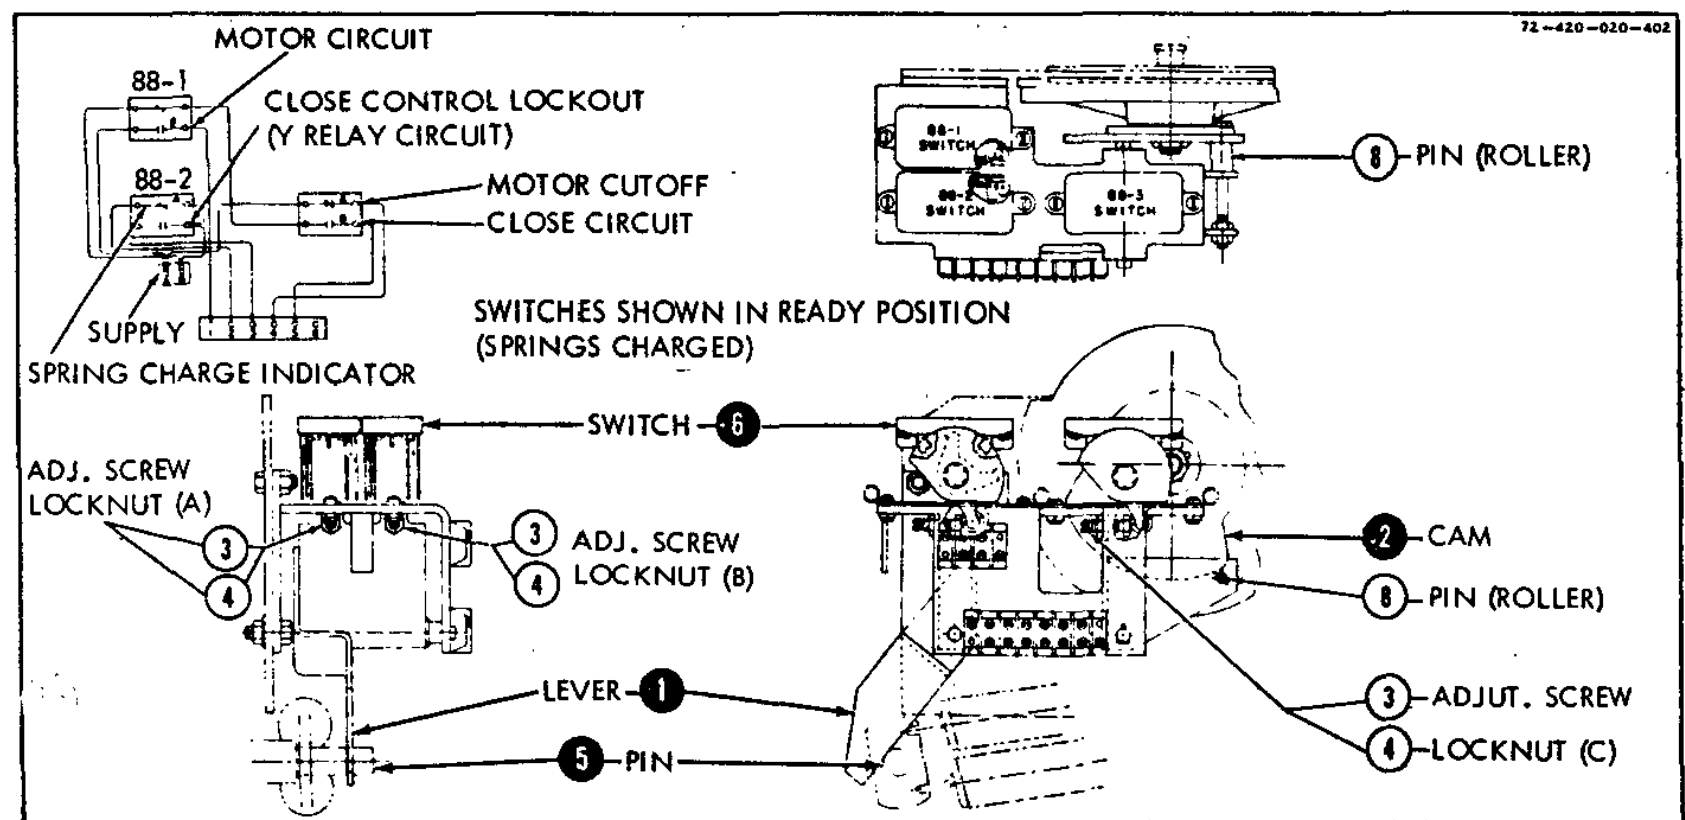

Fig. 11 - Motor control switch assembly for stored energy operator.
The normal control (Fig. 7) for this operator has been incorporated in one switch assembly located at the rear of the unit. It consists of two heavy-duty toggle switches (6) operated by common linkage (1) from the main closing springs and one heavy-duty toggle switch (6) operated by a cam (2) driven by the main gear (Fig. 11).
The main spring charging motor power is supplied through terminals 3 and 4, Fig. 7. The mechanical interlock is a switch operated by the breaker release lever which opens the motor circuit when the lever is depressed. The prop latch check switch is closed when the spring release latch is in reset position. The 88-1 and 88-2 switches are shown with the main closing springs discharged. When the control is energized, the motor starts to charge the springs. The 88-3 switch is operated by cam (2), Fig. 11, on the main gear. As the charging linkage charges the main closing springs, the motor switch cam rotates with the left-hand large gear. When the control is energized the motor starts to charge the springs. Just before the springs are fully charged, the 88-1 and 88-2 switches are thrown by lever (1) which is operated by pin (5), Fig. 11. The 88-1bb switch opens when the springs are fully charged. However, before this switch opens, the 88-3aa switch closes and connects the dropping resistor into the motor circuit. The motor continues to drive the gears until the free swinging cranks on the main gears are almost to the top of the gears. The motor then shuts off (cutoff by the cam operating the 88-3aa switch) and coasts until the cranks go over center and drop out of the way.
Normal control for stored energy operated breakers is incorporated into one switch assembly (Fig. 11) located at the rear of the breaker. This switch assembly consists of two heavy duty toggle switches (6) operated by common linkage (1) from the main closing springs and one heavy duty toggle switch (6) operated by a cam (2) driven by the main gear.